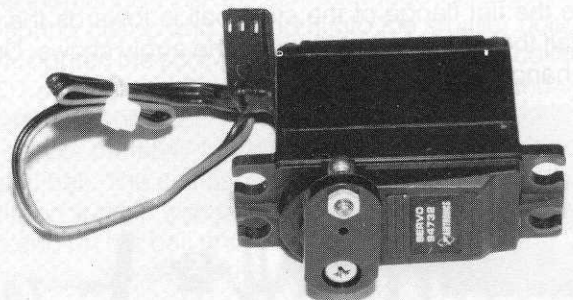

Fig. 129
□ **Fig. 129** Take your steering servo (part of your radio package purchased from your dealer) and install a servo arm, as shown. Install a steel ball on the opposite side of the arm with a nut on this side. Make sure the arm is centered in its throw (or travel). Because the servo saver arms have a longer throw than normal, you should use a lower hole in your servo arm (closer to the servo arm screw.)